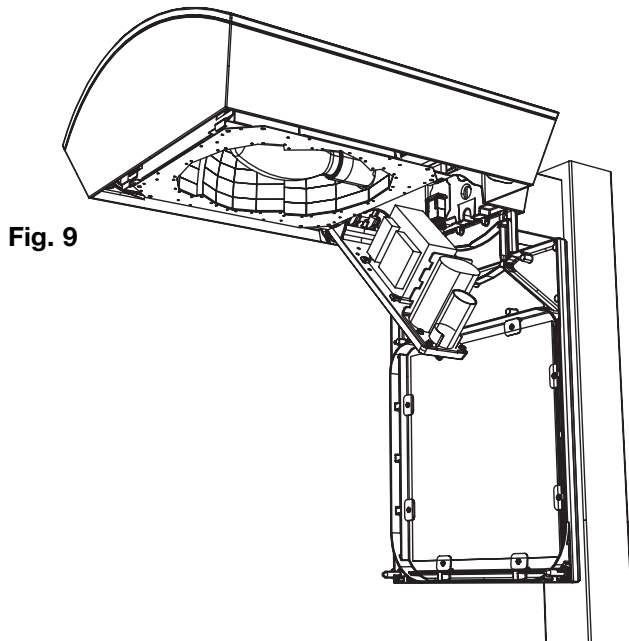

Fig. 9
9. To reinstall POWER TRAY, hang POWER TRAY from POWER TRAY HINGE, swing POWER TRAY up till POWER TRAY LATCH snaps closed. Reconnect PRIMARY QUICK DISCONNECT. Install lamp. Reinstall DOOR at 20°-30° angle to housing, ensuring both hinges are engaged. Close DOOR, ensuring DOOR LATCHES are completely engaged. (Listen for both cams to “click” on each latch). (Fig. 9)